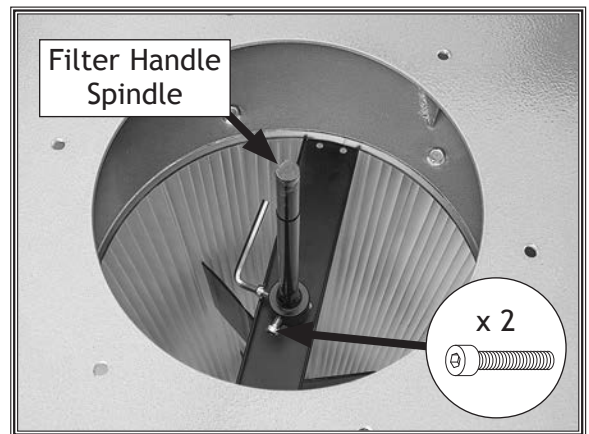

Figure 24. Filter handle spindle attached to canister filter assembly.
26. Insert filter handle spindle so one of two M6-1 x 16 cap screw tips aligns with flat on side of filter paddle spindle, then tighten both cap screws to secure spindle (see **Figure 24**).